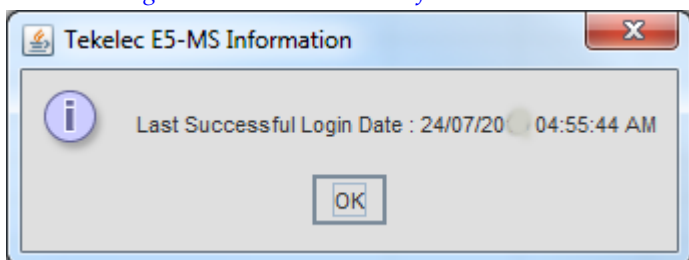

**Figure 3: E5-MS Authentication Screen**
2. Enter the **User ID** and **Password** as shown on the Figure 3: E5-MS Authentication Screen.